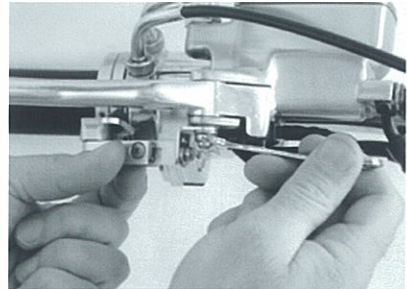

Figure 13
3.2 Remove the lock nut from the motorcycles brake pivot bolt. Attach the End Bracket(7) and replace the brake pivot lock nut. **(Figure 13) Do Not allow the End Bracket(7) to turn while tightening the brake pivot nut.** (Tighten the nut to manufacturers spec.) **Note:** If the End Bracket(7) is fully extended or will not reach your brake pivot bolt at all, you may need to move your brake lever mount closer to the switch housing. There is also an Extension Block and longer Screw(17) supplied in your kit. The extension block is a 1/2" aluminum cube with a hole thru it, use this to extend the Slide(6) if needed.